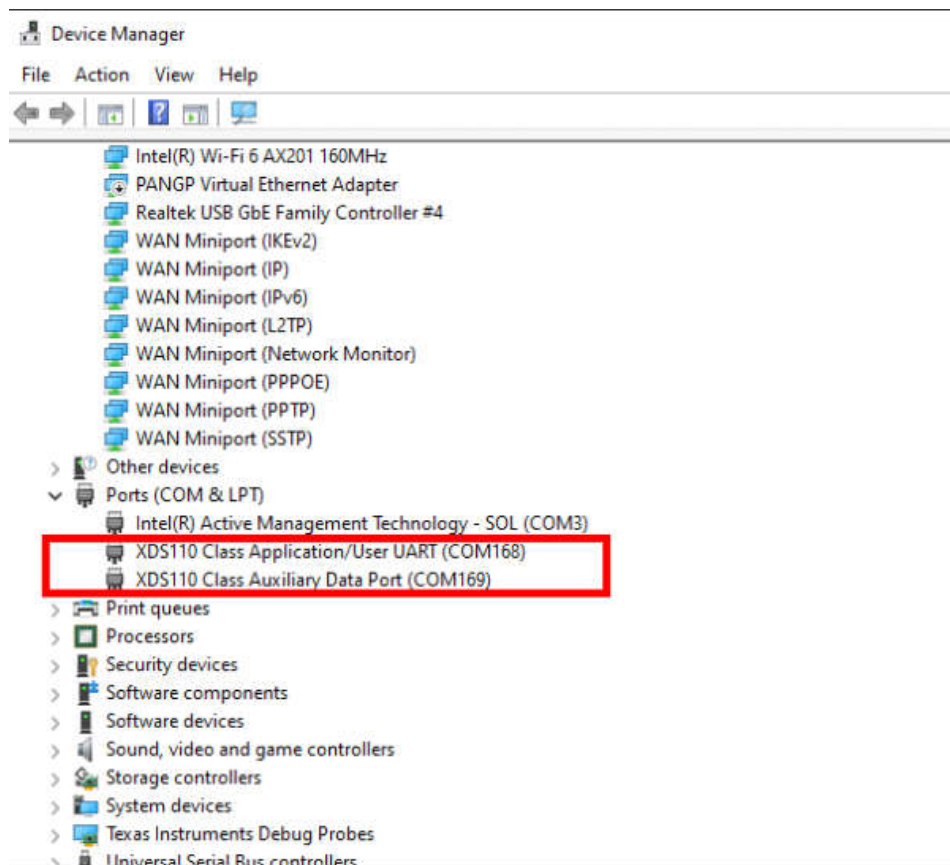

Figure 4-1. AM26x UART Port Detection
- Port: COM### (Class Application, User UART, from Figure 4-1)